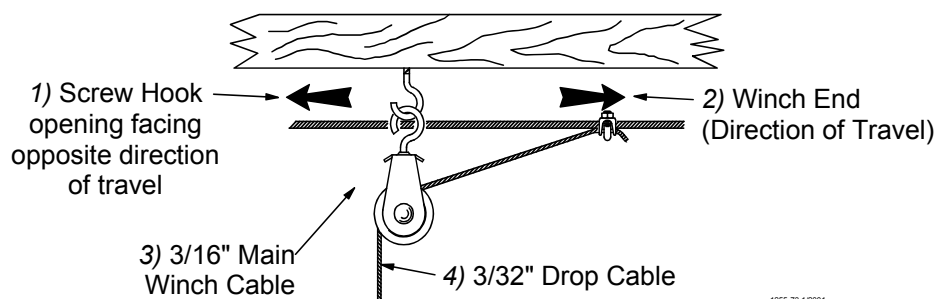

Figure 14. Screw Hook Installation
The openings of the screw hooks must be pointed away from the direction of travel when the power winch raises the feeder line. See **Figure 14**.
Refer to **page 13 Figure 14**.
2. Thread the end of the 3/32" or 1/8" cable through the pulley toward the winch. Clamp this end to the 3/16" winch cable about 6" [150 mm] from the last pulley, using a 3/16" cable clamp. See applicable figure; **Figure 14 or 20**.